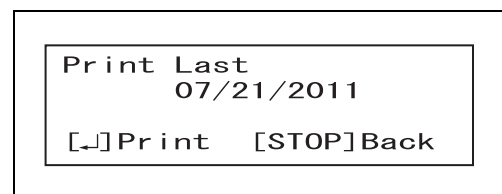

Figure 7.43
- 3 Select "Leak Test Log", "Error Log", or "Total Log" by operating the ▲ and ▼ buttons and press the ENTER button. The monitor displays the screen as shown in Figure 7.43.
- 4 Press the ENTER button, while the monitor is displaying the screen as shown in Figure 7.43. Printing starts.